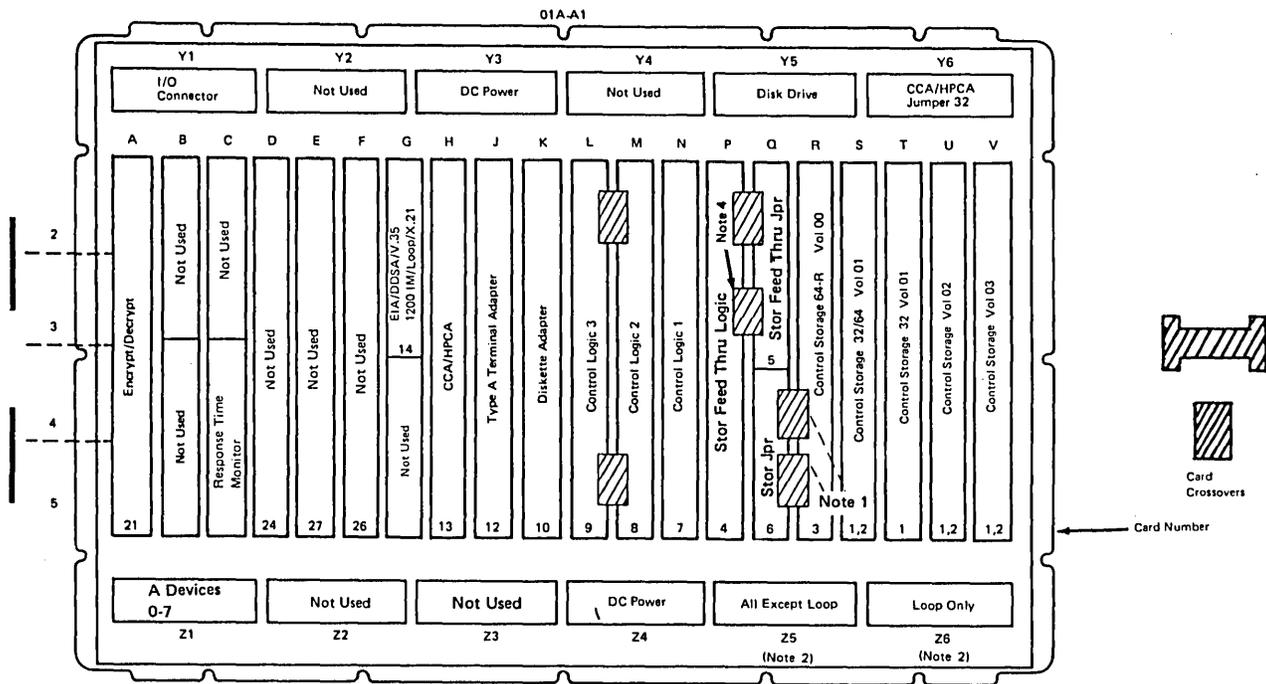

Figure 1-5. 01A-A1 Board – Model 51C with 2400-, 4800-, and 9600-bps Integrated Modem – PN 5643329 or 6226635
- Figure 1-5 Model 51C without 2400-, 4800-, and 9600-bps Integrated Modem.